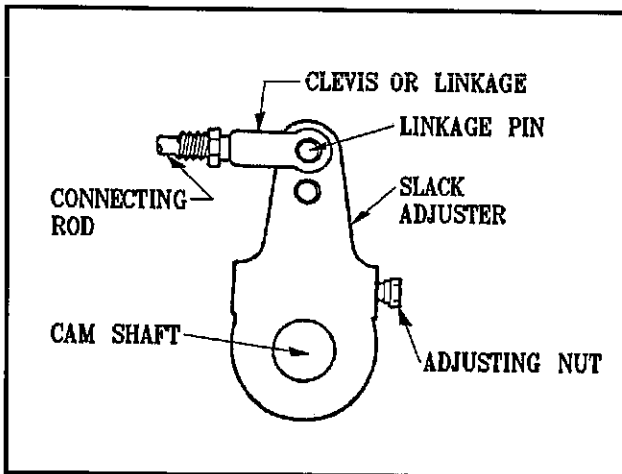

FIG. 6-2 SLACK ADJUSTER TERMINOLOGY
- Disconnect the slack adjuster from the connecting rod by removing the clevis pin (See **FIG. 6-2 on next page**).
d. Remount the brake chamber on the axle brackets and reconnect the air service hoses and the slack adjuster connecting rod (See FIG. 6-2).
b. Place a 9/16 inch wrench on the slack adjuster adjusting nut (See FIG. 6-2), and push in on the locking sleeve.